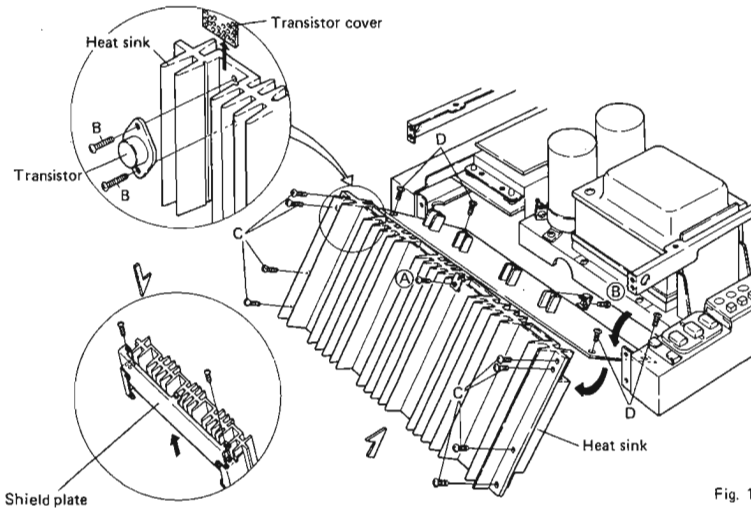

Fig. 11
**Removing the Power Amplifier Assembly (Fig. 11)**
- (1) After the top cover and bottom plate have been removed, the power amplifier can be adjusted.
- (2) The power transistors can be replaced by pulling the transistor covers out of the heat sink guides and unscrewing their two screws (B).
- (3) Unscrew the varistor fixing screw at the upper part of the center of the heat sink. Remove the varistor.
- (4) Stand the main body on the bottom plate so it is not touching the bench. Unscrew the eight screws (C) at both sides of the heat sink. This allows the power amplifier printed circuit board to be turned forward.
- (5) Unscrew the four printed circuit board fixing screws (D) and screws (A) and (B). This allows the printed circuit board to be removed from the heat sink. After this has been done amplifier can be checked.